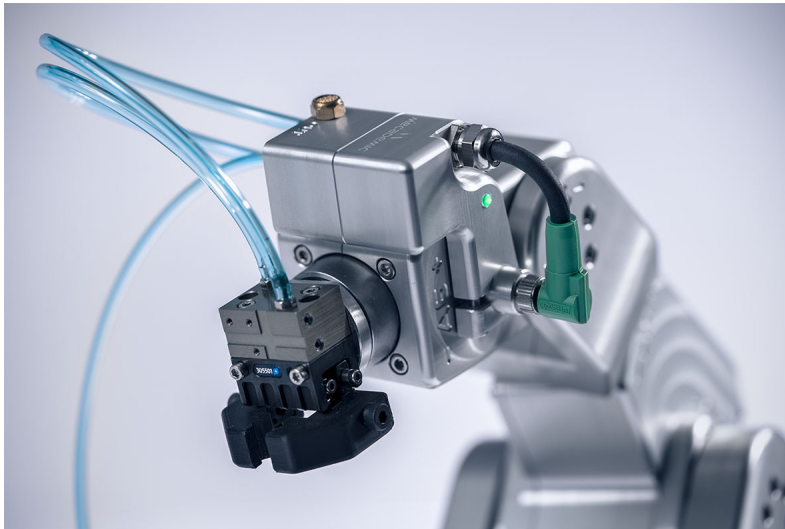
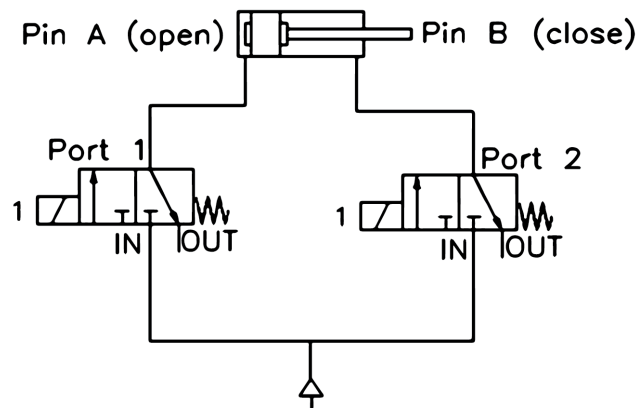

Figure 4: Pneumatic module connected to the Meca500 and to a double-action pneumatic gripper (MEGP-plus 25, provided by Mecademic as a kit with the MPM500)
Figure 5: Pneumatic circuit in the case of a double-action pneumatic gripper
6. After activation of the Meca500, the green LED on the module should emit steady light, indicating that the electrical connection is functional, as shown in Figure 4.
To connect your MPM500 to a double-action pneumatic gripper, as in Figure 4, follow the circuit of Figure 5. The compressed air should be introduced in the MPM500's IN port. It will be distributed to both 3/2 NC valves. The solenoid switch activates one valve which allows for the gripper to open/close its fingers, depending on which valve is activated. The gripper's pneumatic connectors should go in the MPM500's Port 1 and Port 2.